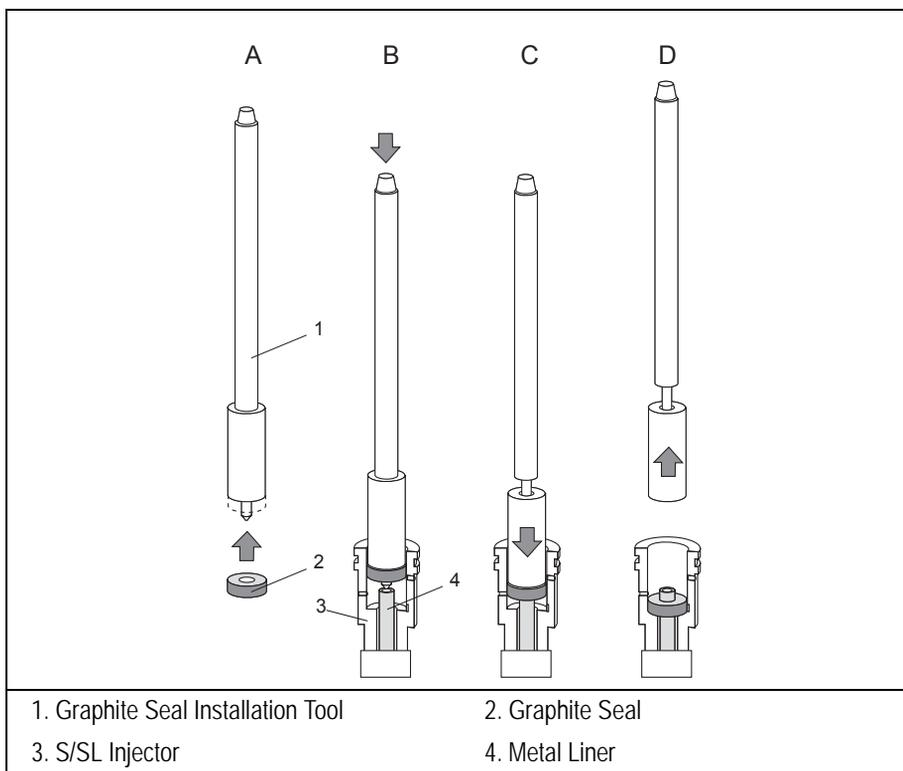

Figure 14-23. Graphite Seal Installation Tool
10. Slide the appropriate graphite seal and push it onto the metal liner from the top of the injector by using the appropriate tool as shown in Figure 14-23.